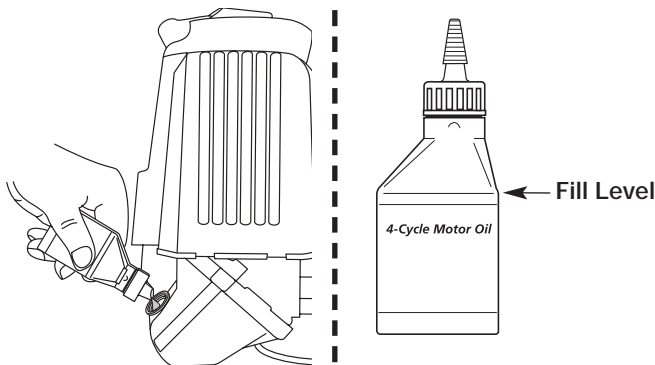

Fig. 60
**NOTE:** Use the bottle and spout saved from initial use to measure the correct amount of oil. The top of the label on the bottle measures approximately 3.4 ounces (100 ml) (Fig. 60). Check the level with the dipstick. If the level is low, add a small amount of oil and recheck. Do not overfill (Fig. 60).